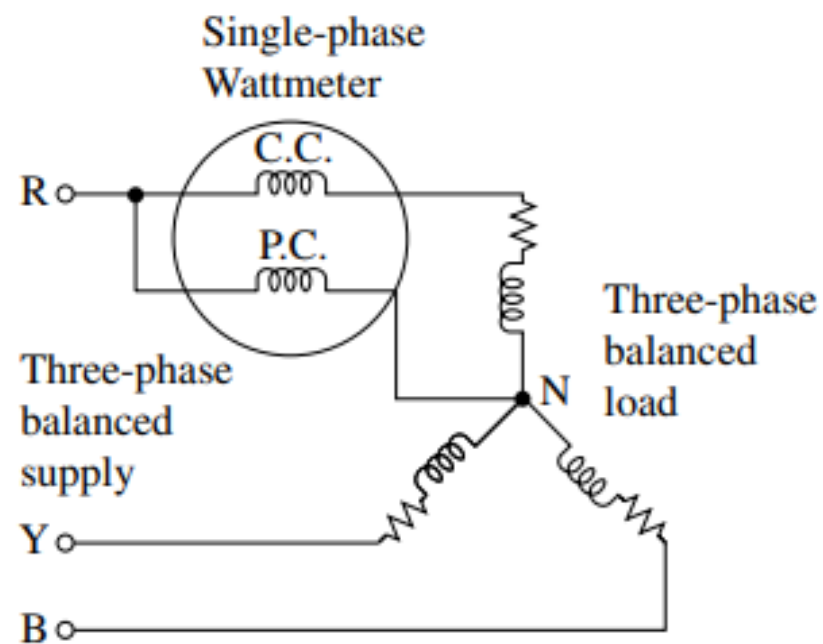

Figure 4.15 *One-wattmeter method of measuring power of a star-connected balanced three-phase load*
In this method, only one single-phase wattmeter can be used to measure the total three-phase power. In this method, the current coil (CC) of the wattmeter is connected in series with any phase and the pressure coil (PC) is connected between that phase and the neutral as shown in Fig. 4.15.